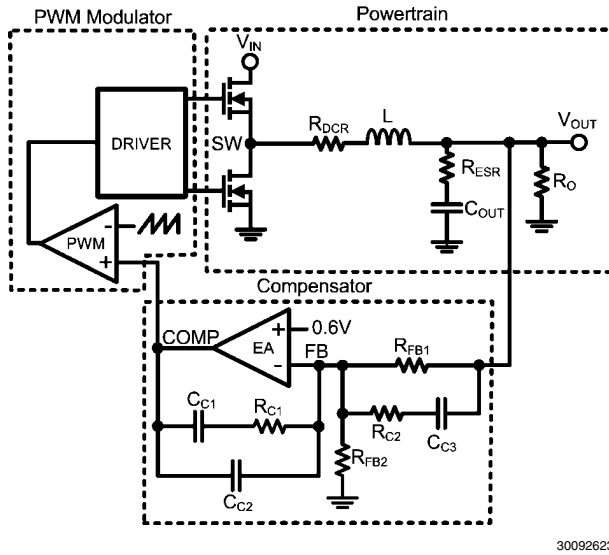
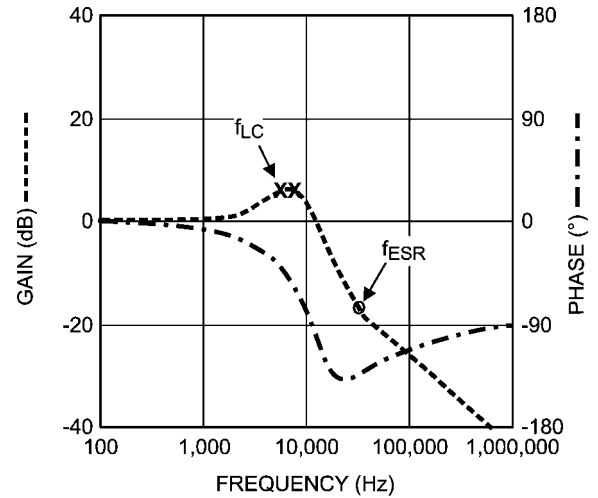

FIGURE 13. Control Loop Schematic Diagram
FIGURE 14. Powertrain Bode Plot
There are three main blocks of a voltage mode buck switcher that the power supply designer must consider when designing the control system: the powertrain, PWM modulator, and the compensator. A diagram representing the control loop is shown in Figure 13.
The powertrain consists of the filter inductor (L) with DCR (R_{DCR}), output capacitor (C_{OUT}) with ESR (effective series resistance R_{ESR}), and effective load resistance (R_O). The error amplifier (EA) regulates the feedback pin (FB) to 0.6V. The passive compensation components around the error amplifier help maintain system stability. Type III compensation is shown in Figure 13. The PWM modulator establishes the duty cycle command by comparing the error amplifier output (COMP) with an internally generated ramp set at the switching frequency.
The bode plot of the above transfer function can be seen in Figure 14.
The complex poles (f_{LC}) created by the filter inductor and output capacitor cause a 180° phase shift as seen in Figure 14. The phase is boosted back up to -90° by virtue of the output capacitor ESR zero. The phase shift caused by the complex poles must be compensated to stabilize the loop response. The compensation network shown around the error amplifier in Figure 13 creates two poles, two zeros and a pole at the origin. Placing these poles and zeros at the correct frequencies will optimize the loop response. The compensator transfer function is: